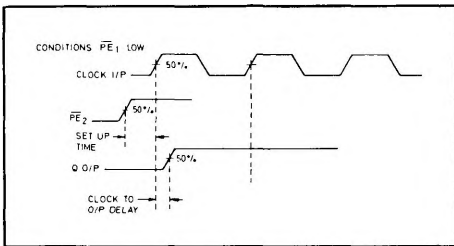

Fig. 3 Set-up timing diagram
- Set-up time is defined as the minimum time that can elapse between a L \rightarrow H transition of a control input and the next L \rightarrow H clock pulse to ensure that the $\bar{1}$ 0 mode is forced by that clock pulse (see Fig. 3).